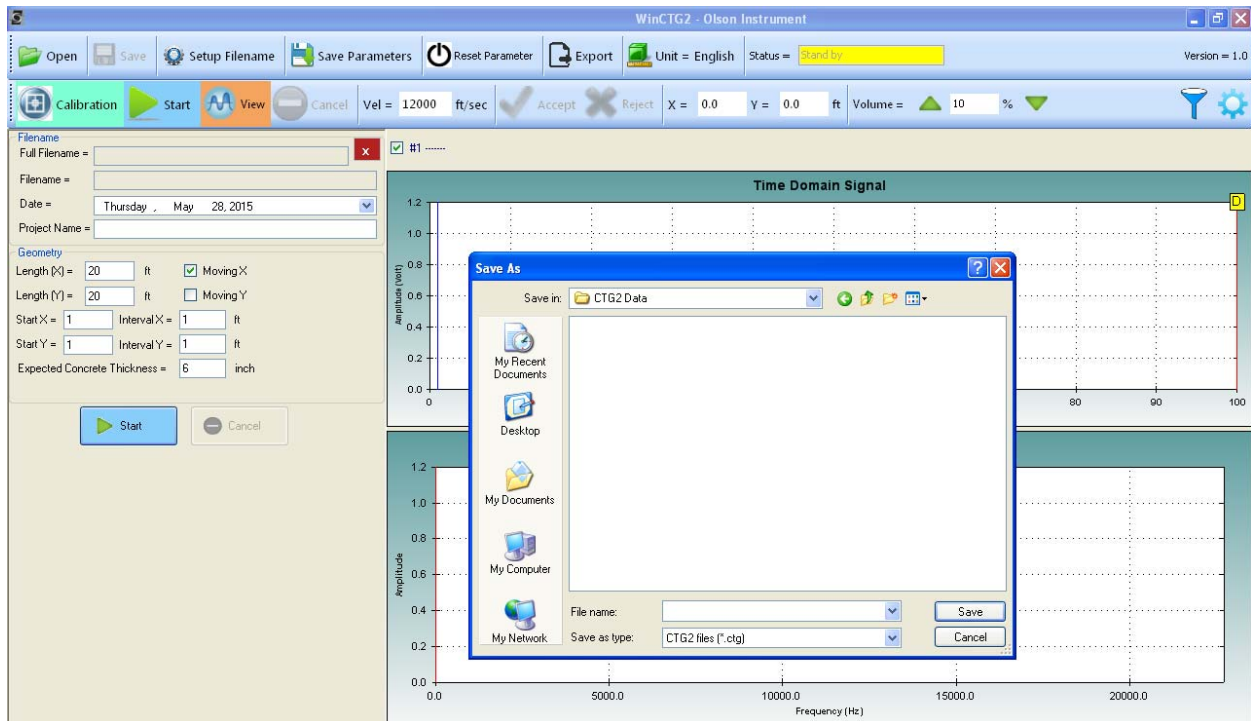

Figure 4 – Start Testing without Setting up Filenames
**Start Testing without Setting up Automatic File Naming:** To start collecting data without using the “Setup Filename” option, select the “Start” option found on the Toolbar. A “Save As” dialogue box will open as shown in Figure 4 below. Enter the individual filename desired. When finished, select “Save” to close the dialogue box and proceed with testing.